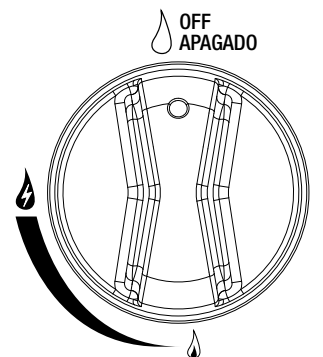

Figure 2
3. All control knobs must be in the 🔥 OFF position (Figure 2).